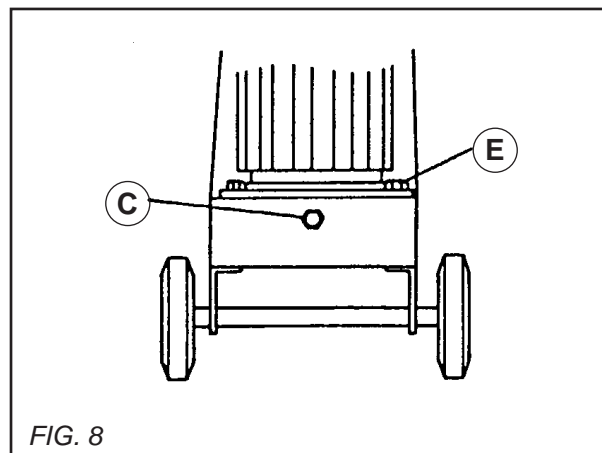

FIG. 8
To change the belt or to tension it, all you have to do is release the bolts (E) fastening the motor to the chassis and turn the tensioning screw © to the right to tension or to the left to slacken the belt (SEE FIG. 8). (The tension is checked via a hatch under the chassis when the machine is disconnected from the power supply).